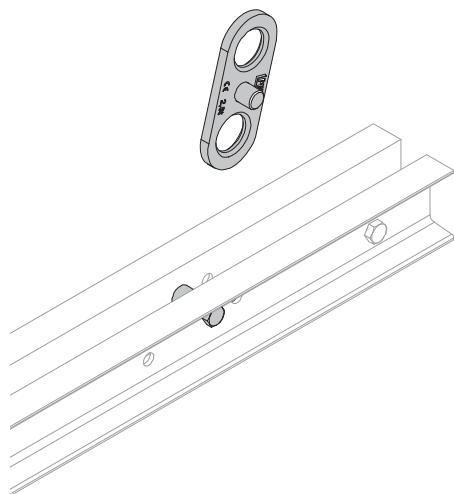

Fig. 10
1. Loosen the nut (3) and remove from the bolt (4).
2. Pull out bolt (4) sideways from Platform Beam BR (5).
3. Pull out Crane Eye BR-2 2.5 t (1) with Spacer Tube (2) in an upwards direction.
4. Re-position Spacer Tube (2) in the Platform Beam BR (5).
5. Insert bolt (4) through Platform Beam BR (5) and Spacer Tube (2).
6. Secure bolt (4) with the nut (3). (Fig. 10)